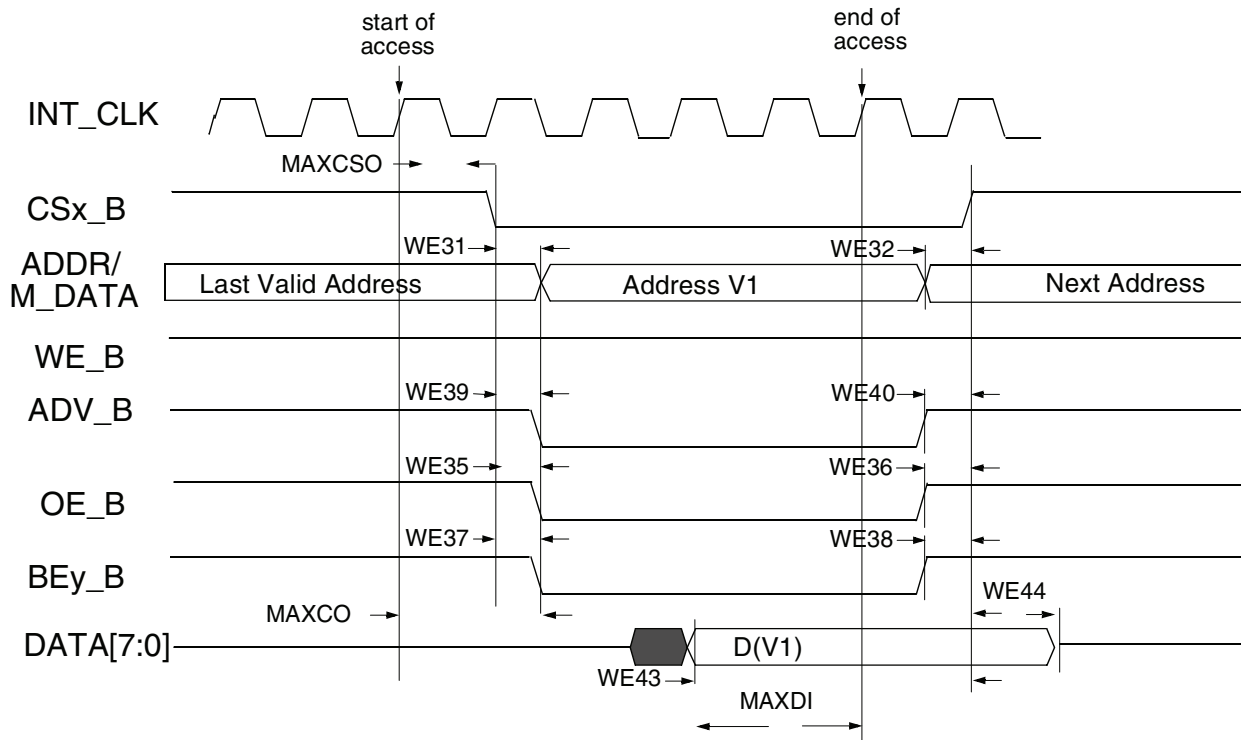
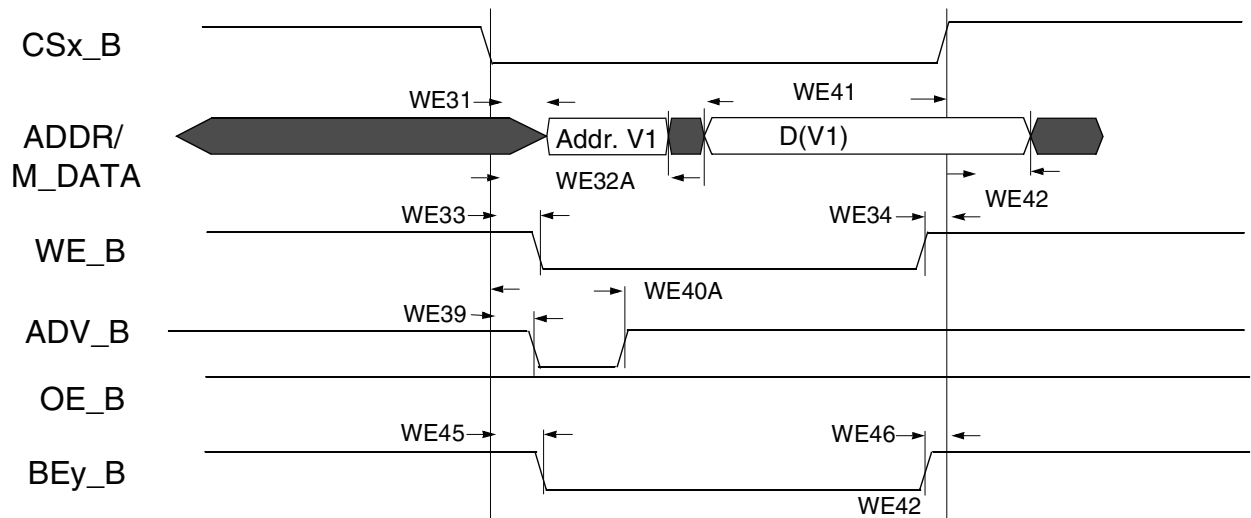
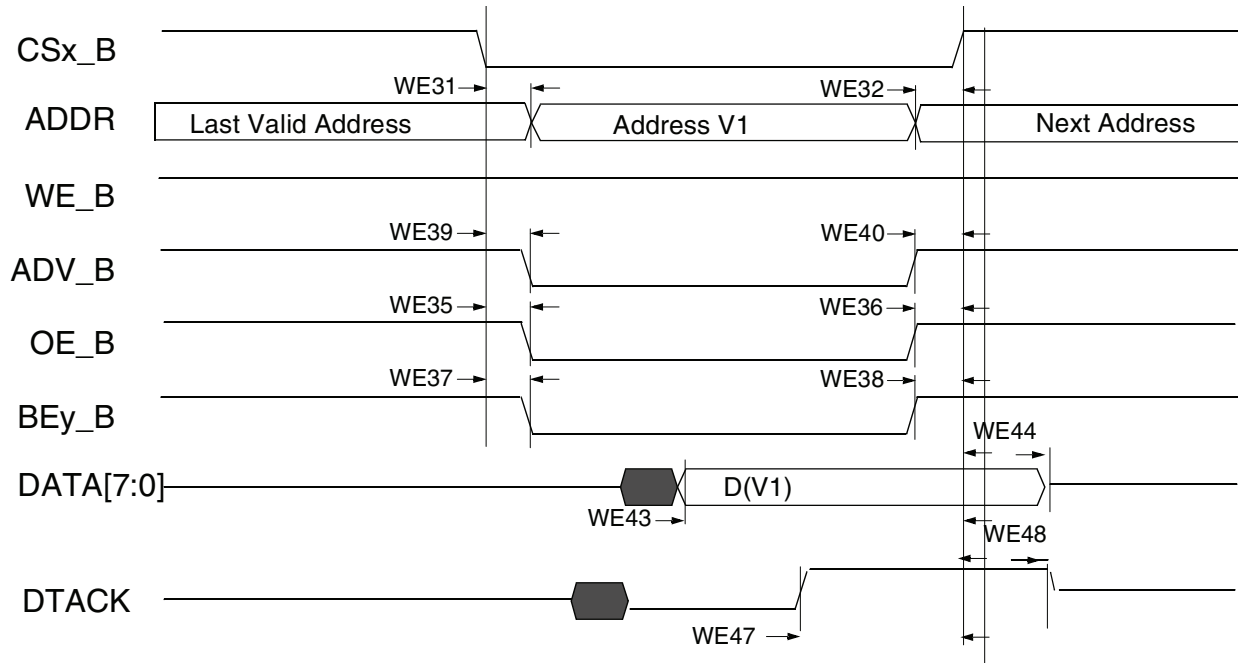

Figure 16. Asynchronous Memory Read Access (RWSC = 5)
Figure 19. Asynchronous A/D Muxed Write Access
Figure 20. DTACK Read Access (DAP=0)
Figure 16 through Figure 20, and Table 40 help you determine timing parameters relative to the chip select (CS) state for asynchronous and DTACK EIM accesses with corresponding EIM bit fields and the timing parameters mentioned above.
Asynchronous read & write access length in cycles may vary from what is shown in Figure 16 through Figure 19 as RWSC, OEN & CSN is configured differently. See the *i.MX 6Solo/6DualLite Reference Manual (IMX6SDLRM)* for the EIM programming model.